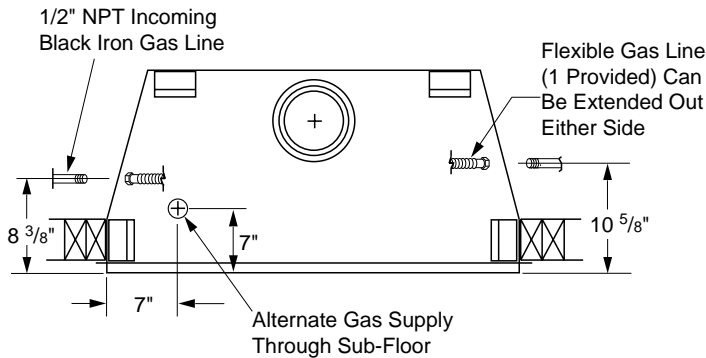

Figure 16 - Routing Incoming Gas Line
3. Install the supply line to the appliance using a 1/2" NPT black iron gas line terminating 2 5/16" above the bottom of the appliance. The gas line may be installed from either side or from the rear of the appliance (see Figure 16, page 11).
In conformance with local codes, route a 1/2" NPT gas line towards the appliance coming in from any of the 3 directions shown in Figure 16.